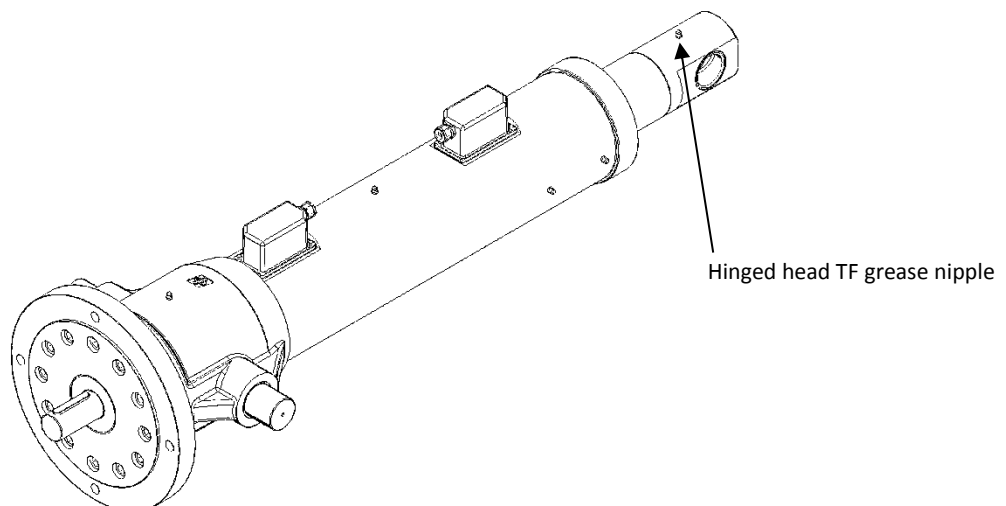

Figure 9.4 – Hinged head TF lubrication
- Relube the hinged head using proper grease nipples, as shown on Fig. 9.4.